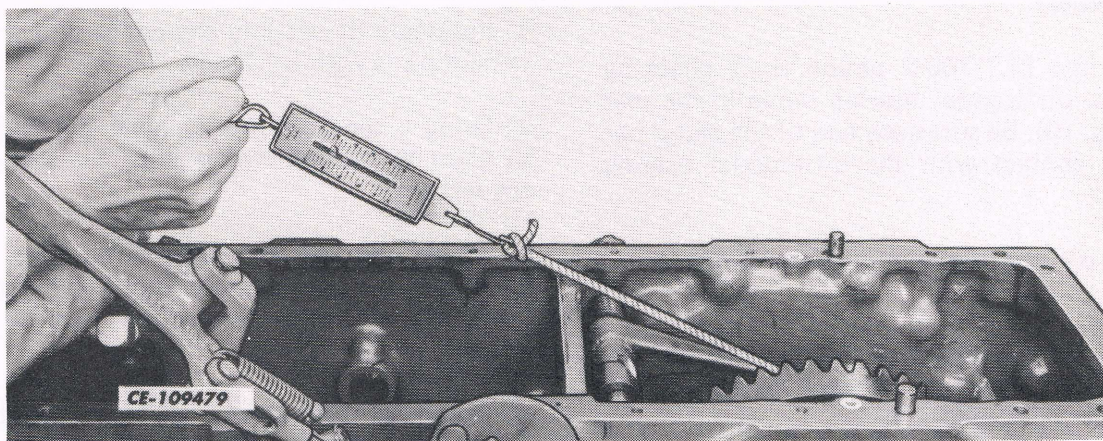

Fig. 21
6. Loosen the left carrier capscrews. Check and record the free rolling torque of the differential (Fig. 21).